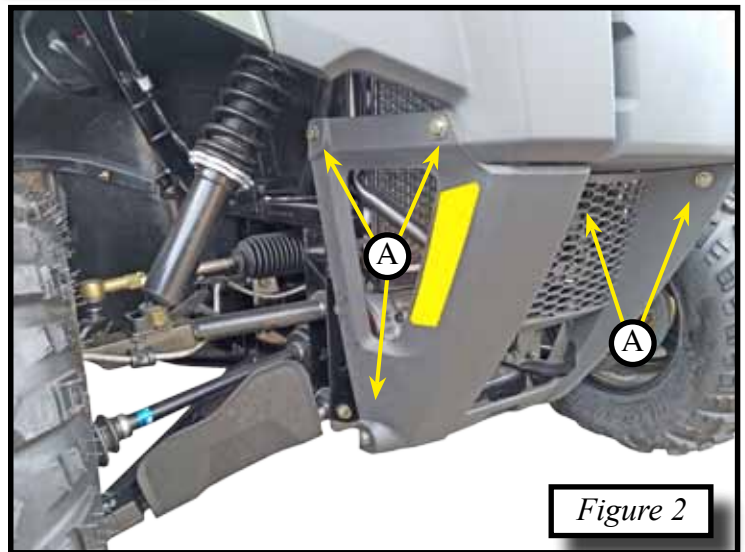

Figure 2
1. Uninstall the plastic fascia by removing the 8 bolts (A) on the sides and front of the fascia. Shown in Figure 2.